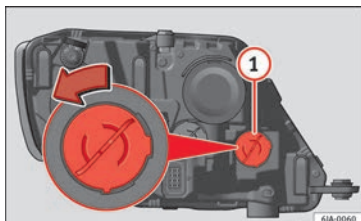

Fig. 93 Changing turn signal bulbs.
- Turn the bulb holder » **Fig. 93 ①** anti-clockwise and remove it.